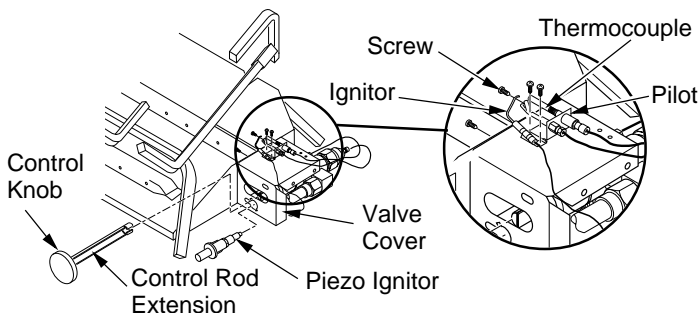

Figure 12 - Installing Cover, Control Knob, and Piezo Ignitor
10. Install thermocouple, pilot, and ignitor onto valve cover as shown in Figure 12. Use the provided screws.